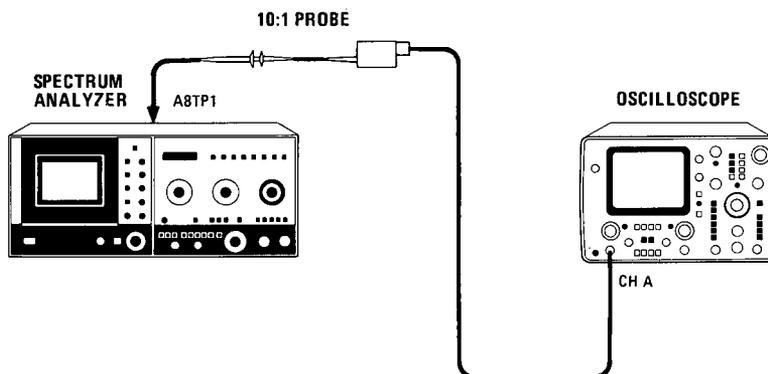

Figure 5-5. Intensity Limit Adjustment Test Setup
- j. Connect oscilloscope, through 10:1 divider probe, to A8TP1 (see Figure 5-5).